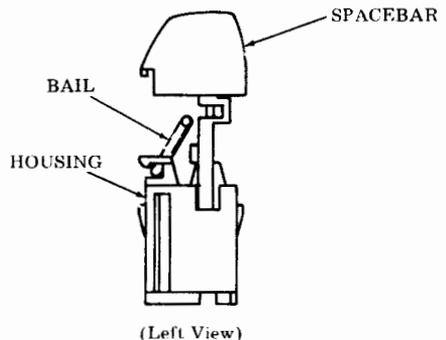

Fig. 7—Spacebar Assembly
- (c) Place the spacebar into the guide slots in the left and right housing. Position the bail into the notch (one left side and one right side) on the spacebar. Push down on the spacebar snapping it into place in the housing, see Fig. 7.